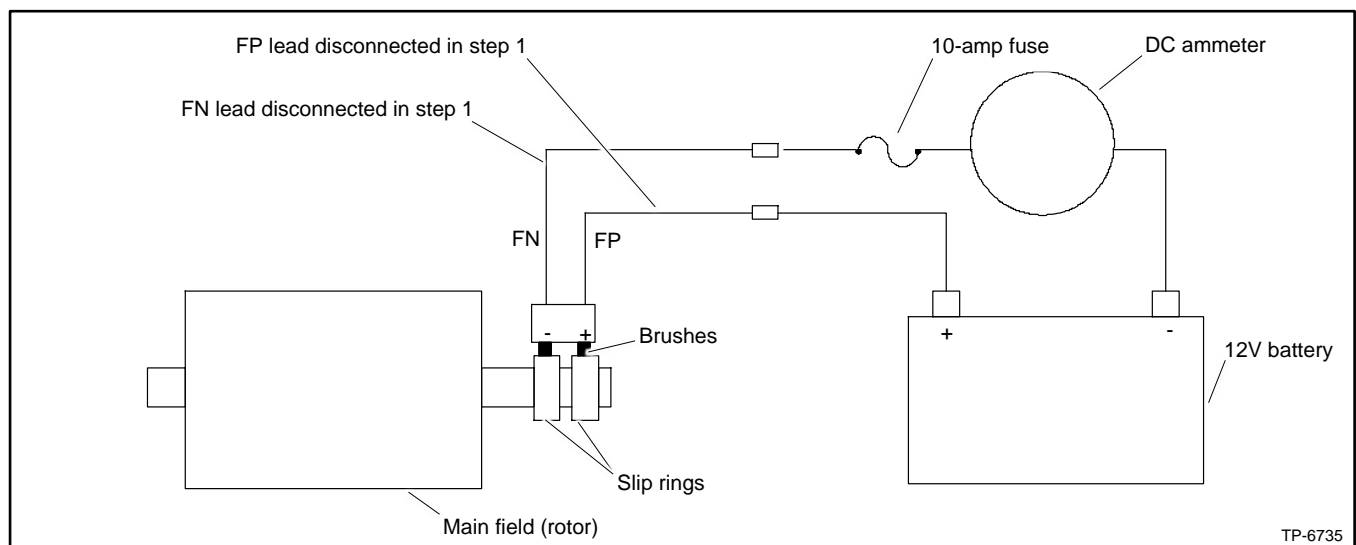

Figure 64 Separate Excitation Connections
2. Connect a DC ammeter, 10-amp fuse, and a 12-volt automotive battery to the positive (FP) and negative (FN) brush leads as shown in Figure 64. Note and record the ammeter reading.